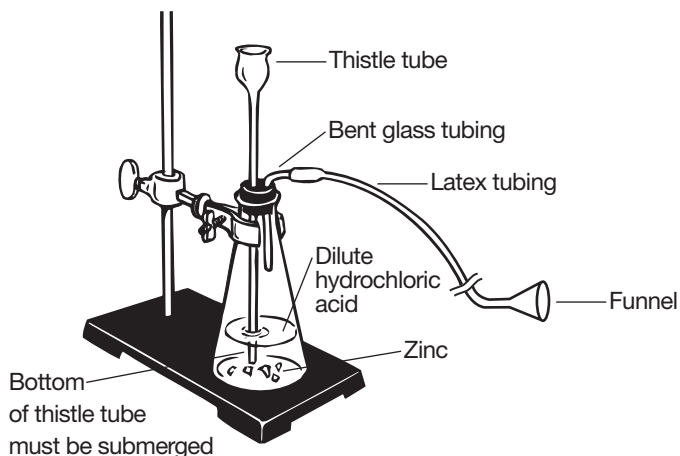

Figure 1. Gas generator
- Set up the gas generator as shown in Figure 1. Carefully insert one end of the bent glass tubing through a two-holed rubber stopper. Attach latex or plastic tubing to the free end of the glass bend. Insert a small funnel into the other end of the latex or plastic tubing. Insert the stem of